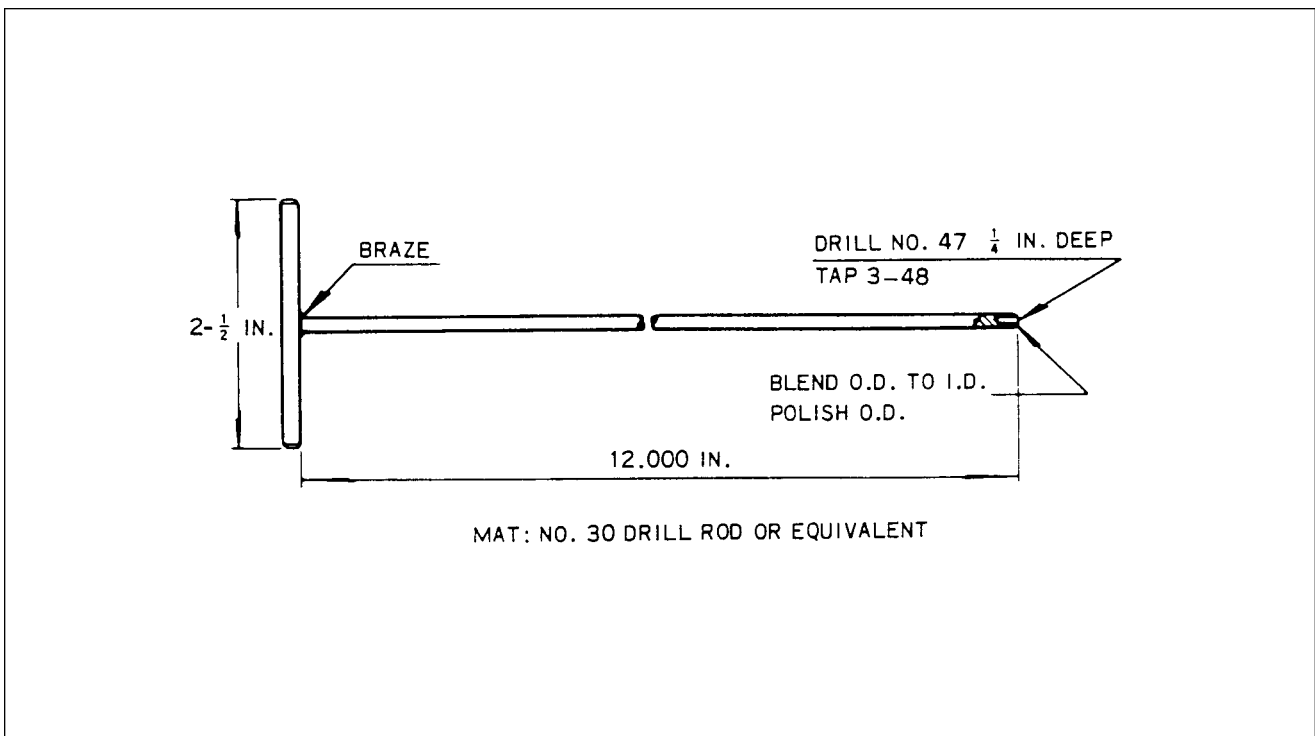

Figure 74-24. Assembly Tool
- a. Fabricate a tool as shown in figure 74-24 for installing insulating sleeves over cable terminals.